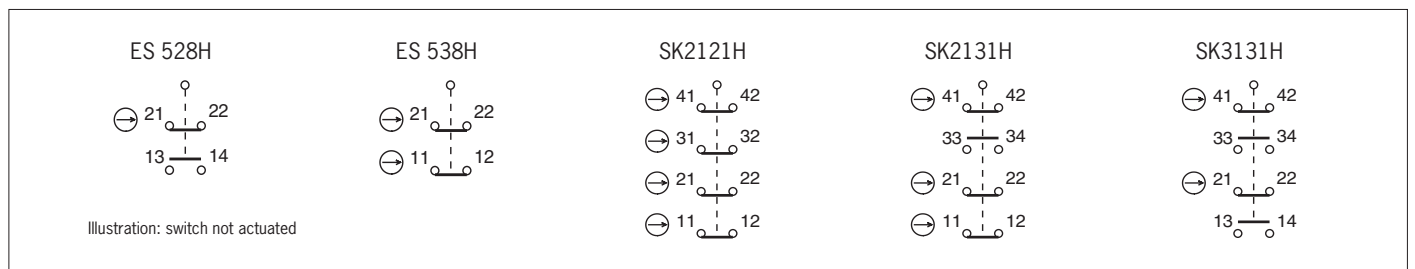

Fig. 6: Terminal assignment for switching elements
At least one contact (⊕) must be used. This signals the position of the guard (for terminal assignment, see Fig. 6).
2. Connect and tighten terminals with 0.5 Nm (for terminal assignment, see Fig. 6).